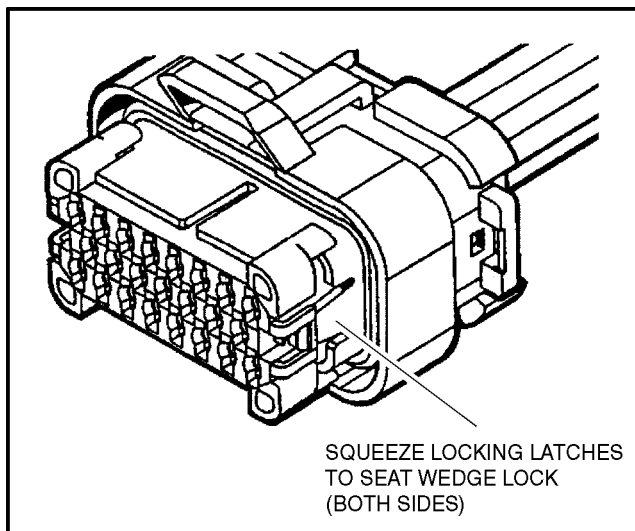

Figure 7-8. Connector Assembly (3 of 4)
3. After all required contacts have been inserted, the wedge lock must be closed to its locked position. Release the locking latches by squeezing them inward (See Figure 7-8., Connector Assembly (3 of 4)).